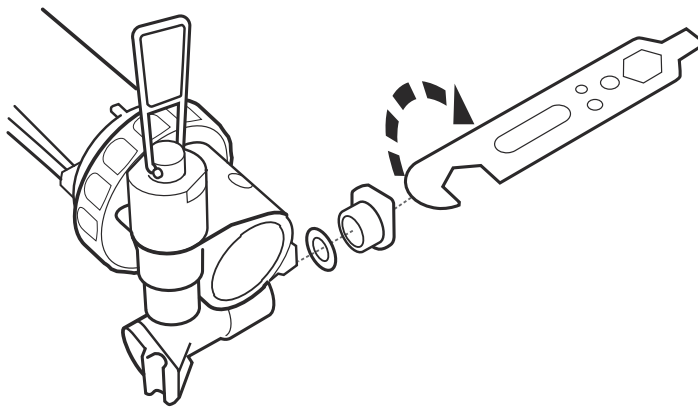

Figure 14-11. Remove the O-Ring.
- Remove the fuel tube bushing and O-ring. Remove the O-ring with the end of the fuel line or a safety pin (see fig. 14-11 on page 14-17).